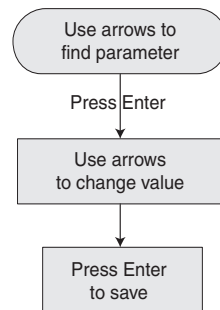

Figure 12 - Changing parameter value.
- Follow the keypress sequence shown in Figure 12:
The password locks or unlocks the blue buttons on keypad. All PENTEK INTELLIDRIVE units are shipped from factory with the default password 7777. It can be changed to any other 1 to 4 digit number. To reset password to a unique password for unit, unlock keypad (see below) and follow the keypress sequence shown in Figure 12 to make the change.